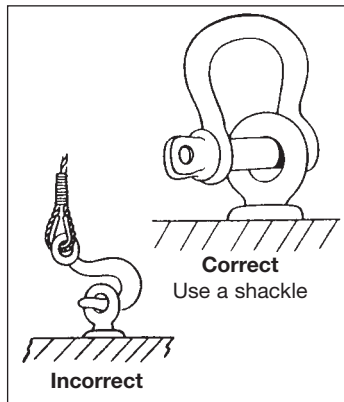

Figure 28
- Never insert the point of a hook in any eye bolt. Use a shackle instead (Figure 28).